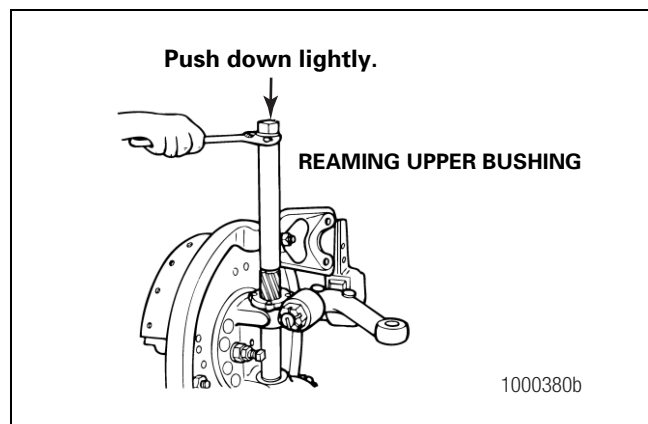
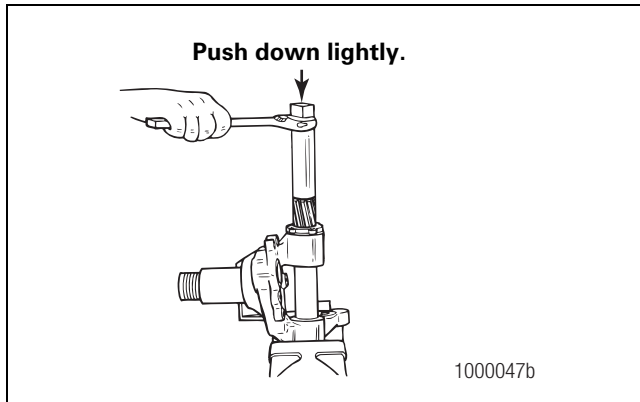

Figure 6.4
Figure 6.5
2. Slide the pilot of the reamer through the top bushing until the reamer blades touch the bushing. Figure 6.4 and Figure 6.5.